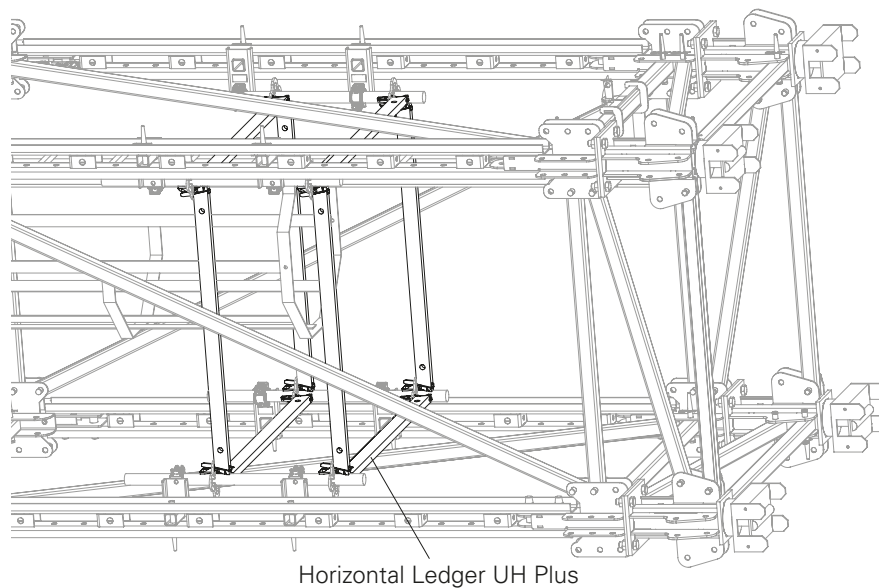

Fig. A1.48
1. Brace the 4 sides by means of Horizontal Ledgers UH Plus. (Fig. A1.48)